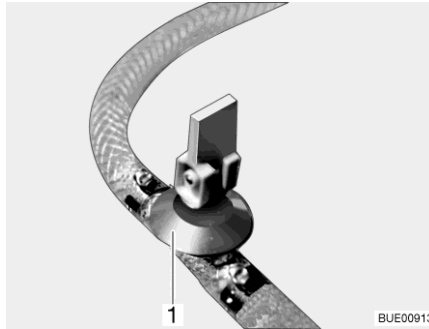
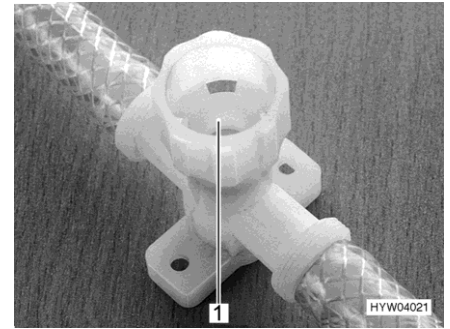

Fig. 187 Drain cock (with rocking lever)
Fig. 188 Drain cock (with twist cap)
- Open all drain cocks. To do this, position the drain cock's rocking lever (Fig. 187,1) vertically or turn the drain cock's cap (Fig. 188,1) in an anti-clockwise direction.